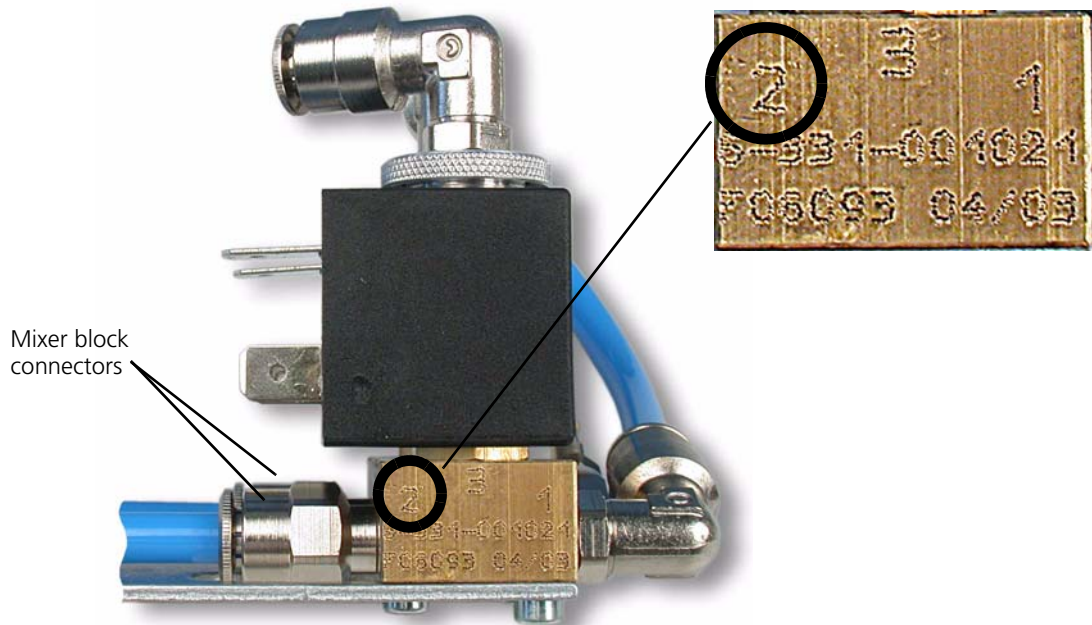

Figure 11-194. The correct position for the mixer block connectors
Replacement of the oxygen cell solenoid valves is an easy procedure, but must be performed correctly. In particular, the brass base of each valve must be correctly positioned on the mounting plate. For more information, see Figure 11-194 on page 11-175.
- Be sure that both connectors to the mixer are mounted in the threaded hole marked **2** on the brass block. (Figure 11-194.)